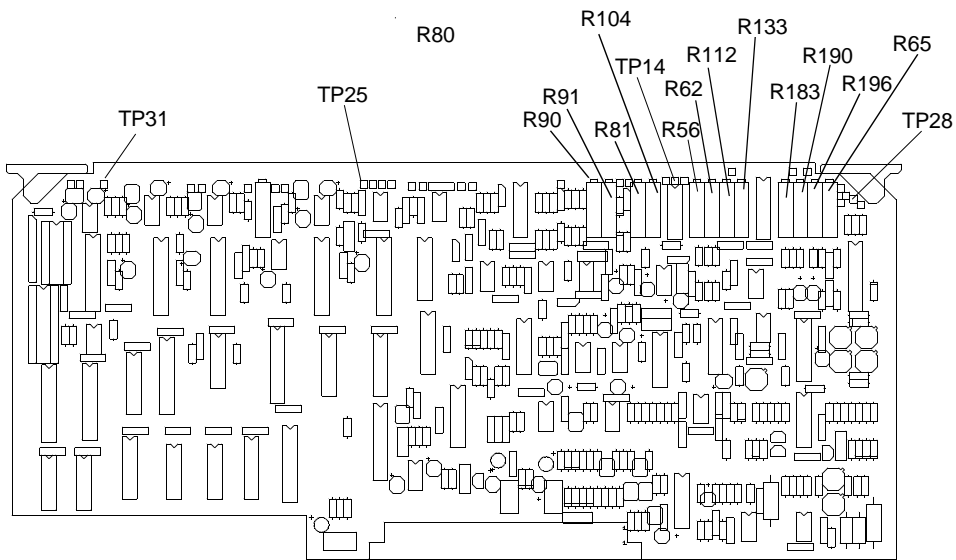

Figure 6-5. Adjustments and Test Points, A6 ALC/Frequency Instruction PCB (all except 54154A thru 54177A)
- Step 2.** Set DVM for DC, 1V range (not autorange). Connect common lead to TP25; connect other lead to TP14 (Figure 6-5 or 6-6).
- Step 3.** Adjust variable resistor R65 (Figure 6-5 or 6-6, page 6-14), for a DVM reading of $1.0000V \pm 0.5 \text{ mV}$. For 54154A thru 54177A, go to Step 6.
- Step 5.** Adjust variable resistor R183 (Figure 6-5 or 6-6) for a DVM reading of $-4.1V \pm 0.1V$ ($0.0 \pm 0.1V$ for 54117A, 54147A).
Step 9. Adjust variable resistor R62 (Figure 6-5 or 6-6, page 6-14) to give a power meter reading equal to the 541XXA reset power level ± 0.5 dBm. These levels are listed in the table at left.
Adjustments A6R62 and A6R196 (Figure 6-5 or 6-6) are interactive. Therefore, set RF output power to re-set level (left) and repeat steps 9 through 11 until both power meter readings are within ± 0.5 dBm of 541XXA indicated RF output power.